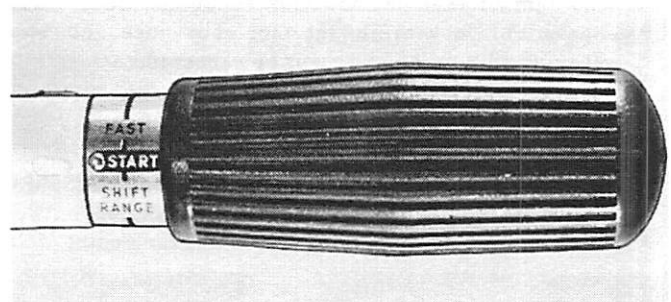

Figure 6. "Start" Position Adjustment
1. With engine running in neutral gear, turn twist grip to obtain 2200 to 2400 RPM. At this point, "Start" position on twist grip should align with indicator arrow on tiller handle. (Figure 6)